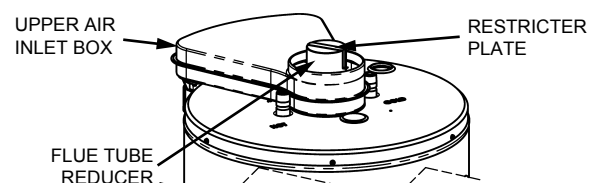

FIGURE 22
* If the horizontal distance is less than 30 in. (760mm), the restrictor plate must be installed (see Figure 22).